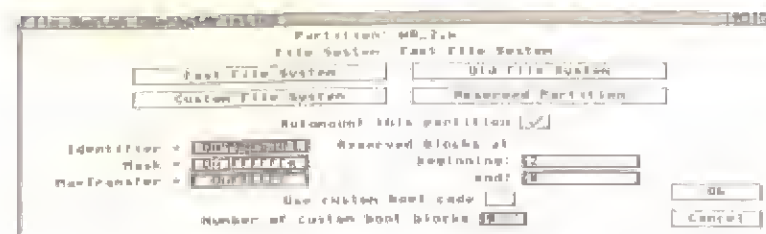

Figure 8. File System Characteristics Window
- Click on the Change... gadget to display the File System Characteristics window, illustrated in Figure 8.